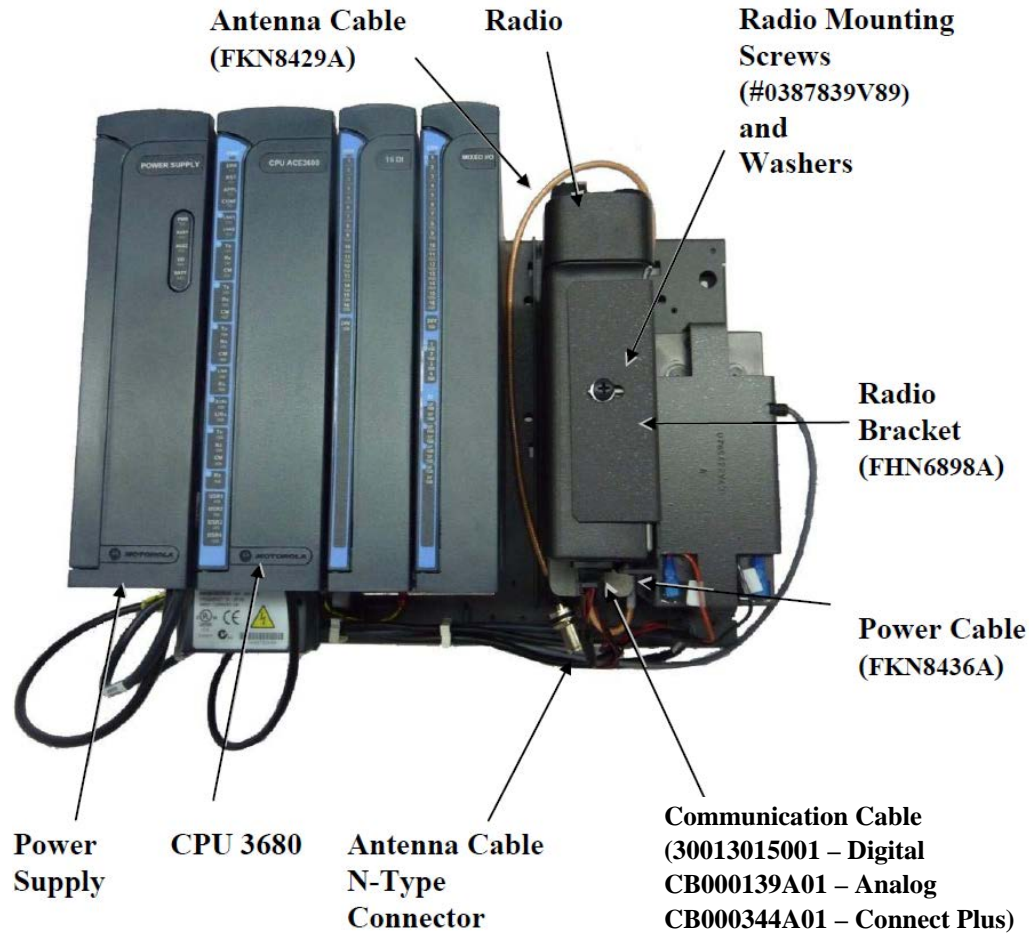

Figure 21-58 MotoTrbo Radio Installed on ACE3600 Chassis
4. Mount the radio/bracket unit onto the RTU chassis near the CPU and I/O modules, using the four built-in screws. See Figure 21-58.